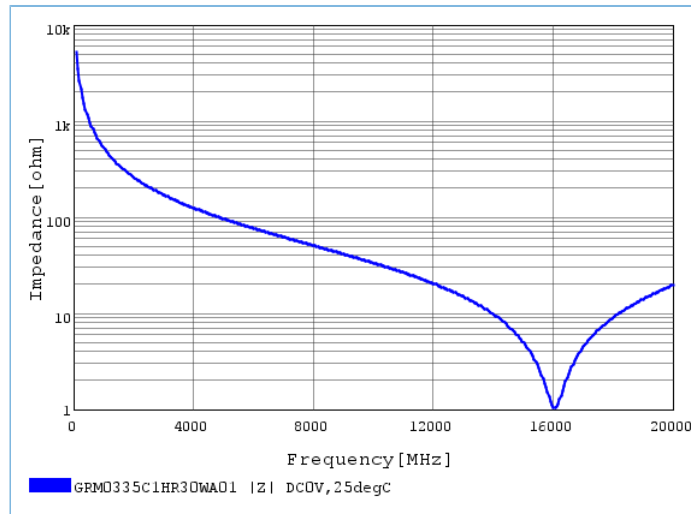

Figure 3-20 Impedance/frequency characteristics of GRM0335C1HR30WA01
- For GR5331, using a 0.3 pF capacitor (C5) in the RF matching circuit can effectively suppress seventh-order harmonics. Place the capacitor as close to the RF\_TX pin as possible. GRM0335C1HR30WA01 is recommended, which features the lowest impedance around the seventh-order harmonics, as shown in Figure 3-20.